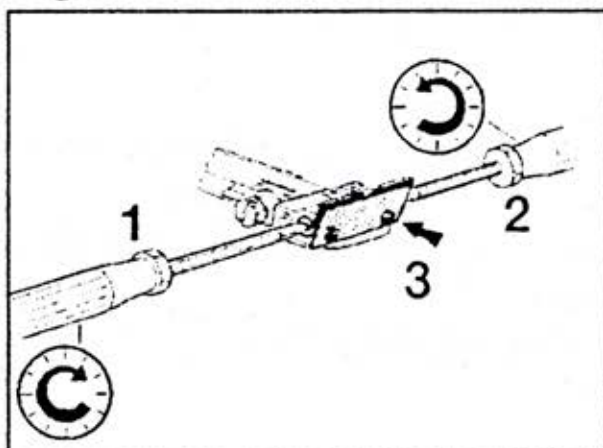

Fig.8
The rearsight opening is adjustable between 0 and 5 mm. Turning either screw ② clockwise or screw ① counterclockwise enlarges the opening. The reverse closes the opening. The depth of the rear sight opening and be adjusted from 1,8 to 2,6 mm by loosening screws ③ and shifting the cover plate up or down (Fig.8). Retighten the screws ③